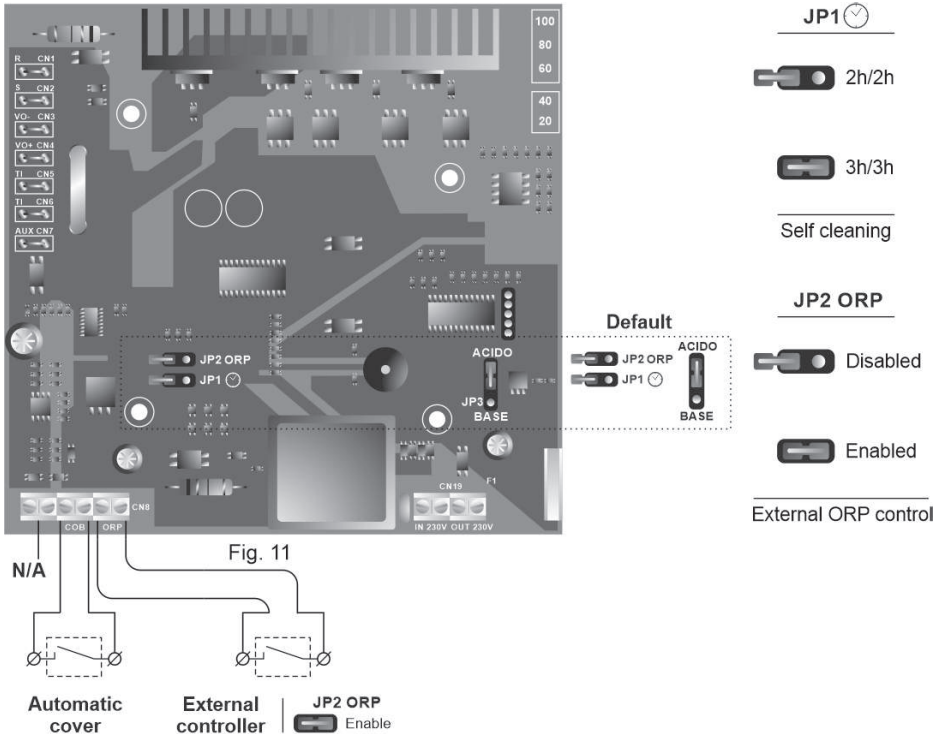

Fig. 11
- **ELECTRODE SELF-CLEANING System:** The reversal frequency can be selected by means of jumper "JP1" on the system control panel (Fig. 11). This configuration will become effective by disconnecting and connecting again the equipment.